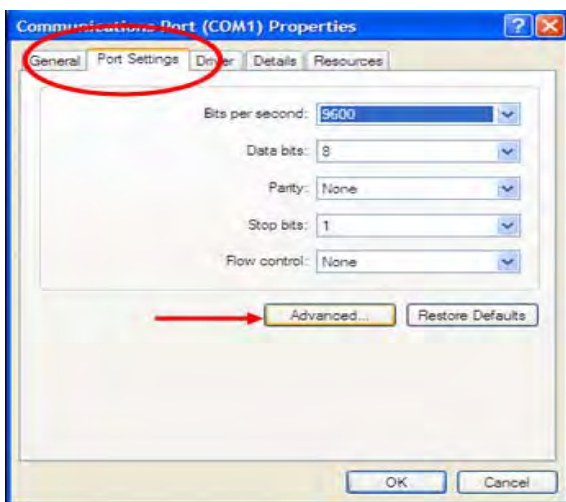

Figure 3
- In the Properties window select the **Port Settings** tab and then click the **Advanced...** button. (Figure 3)